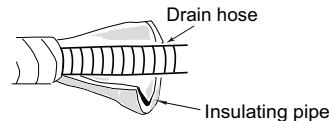

Fig.10
- (1) Add insulating pipe in the indoor drain hose in order to prevent condensation.
- (2) The plastic expansion particles are not provided. (As show in Fig.10)